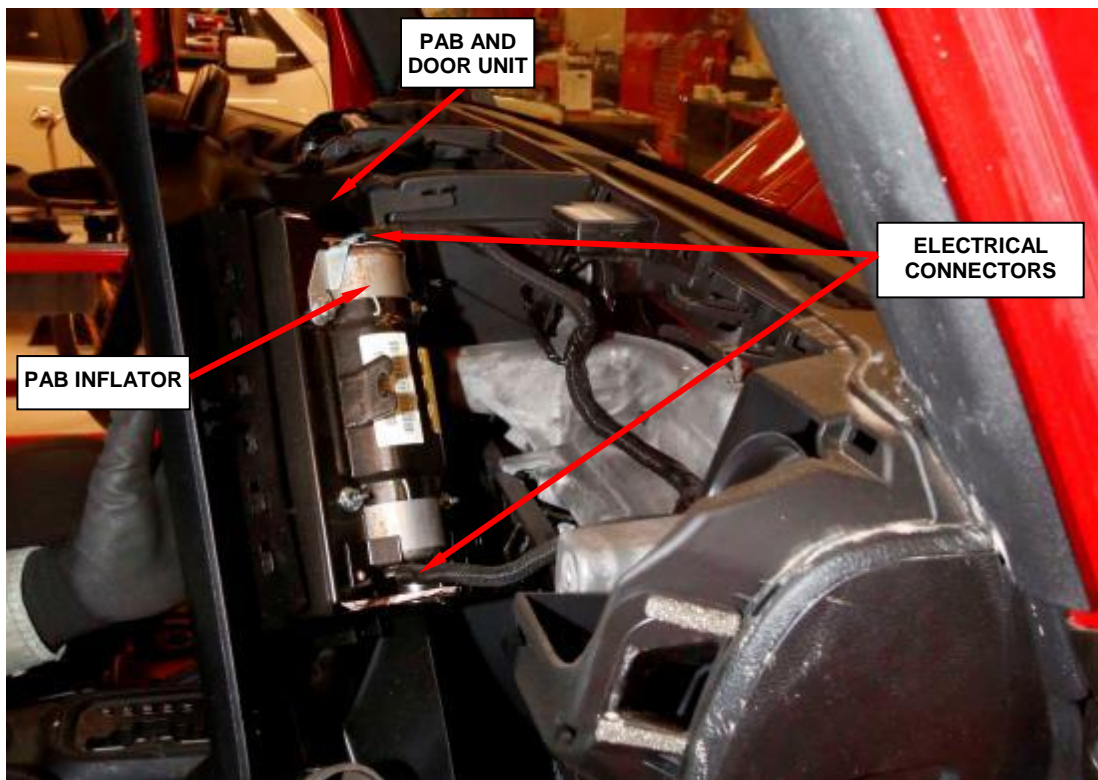

Figure 113 – Electrical Connectors
28. Grasp the lower edge of the PAB door and pull the door and PAB unit rearward far enough to access the two instrument panel wire harness connections to the PAB inflators at each side of the PAB housing (Figure 113).
29. Disconnect the two panel wire electrical connectors from the PAB inflators. Firmly grasp and pull the lock straight out from the connector insulator, then pull the insulators straight out from the inflator to disconnect them from the connector receptacles (Figure 113).